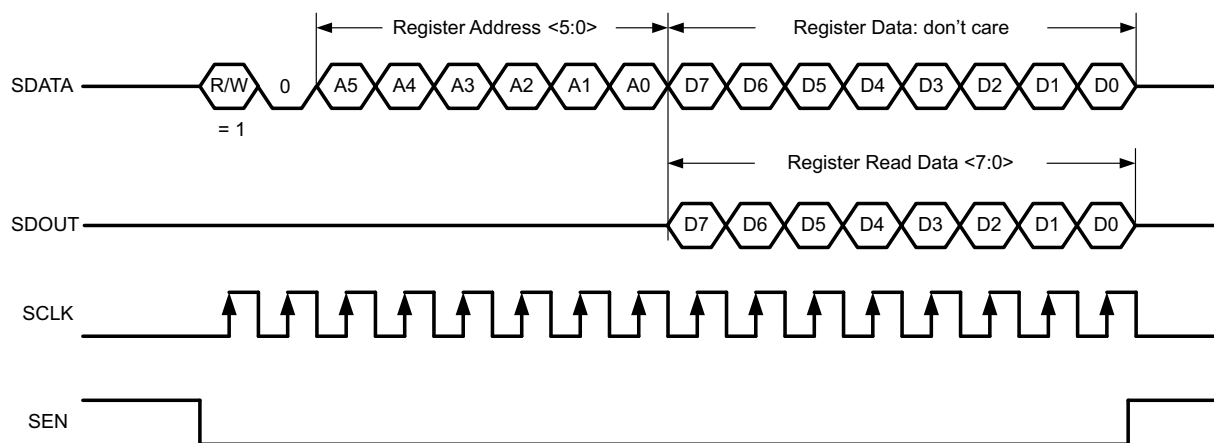
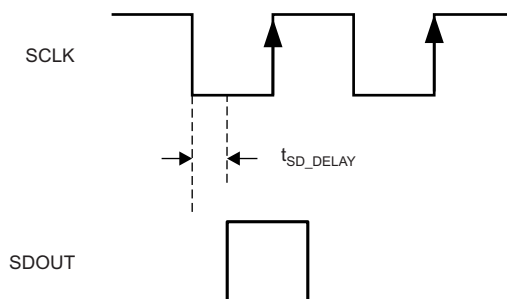

Figure 48. Serial Register Readout Timing Diagram
Figure 49. SDOUT Timing Diagram
2. Write the register address on bits A5 through A0 whose contents must be read. See Figure 48.
When serial registers are enabled for writing (when bit A7 of the 8-bit address bus is '0'), the SDOUT pin is in a high-impedance mode. If serial readout is not used, the SDOUT pin must float. Figure 48 shows a timing diagram of this readout mode. SDOUT comes out at the SCLK falling edge with an approximate delay (t_{SD_DELAY}) of 20 ns, as shown in Figure 49.